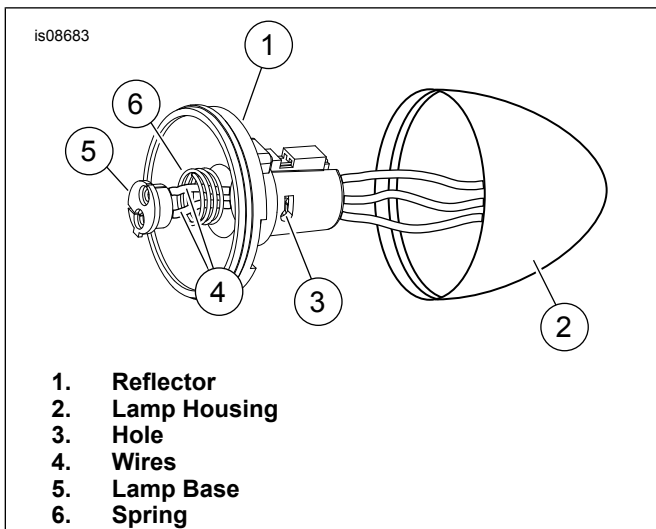

Figure 2. Socket, Lamp Housing, Wires, Lamp Terminal Base and Spring
5. See Figure 2. Pull reflector (1) from lamp housing (2). Insert a right angle pick or a small hex key from inside bulb socket through hole (4). Remove all terminals from lamp base (5).